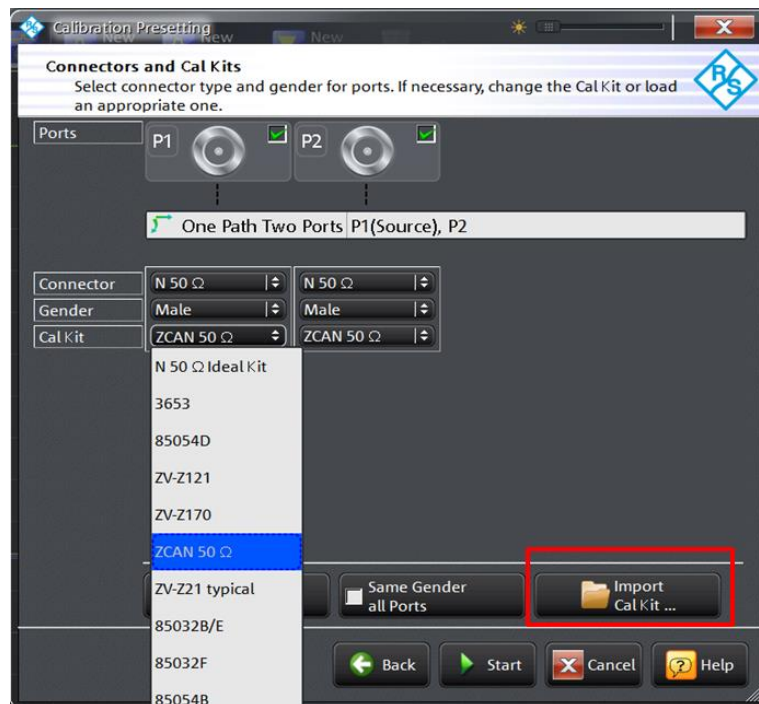

Fig. 5-7: Bandpass filter measurement with display of reflection and transmission.
- The reflection (S11) is shown in the upper half of the split screen and the transmission (S21) in the lower half (Fig. 5-7). Press the *SCALE* key and adjust the y-axis scaling as needed.